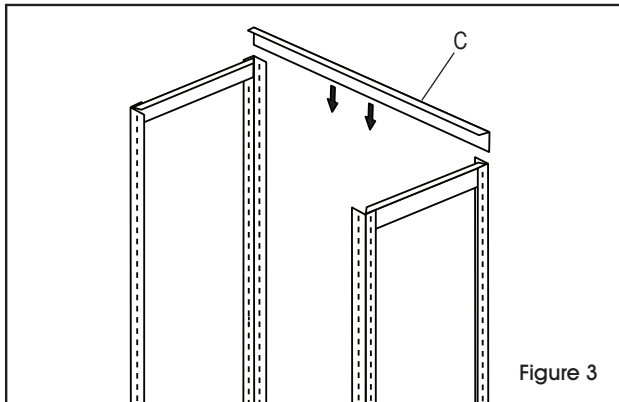

Figure 3
3. Connect the top of the two upright post assemblies by inserting one front/back support (C). (See Figure 3)